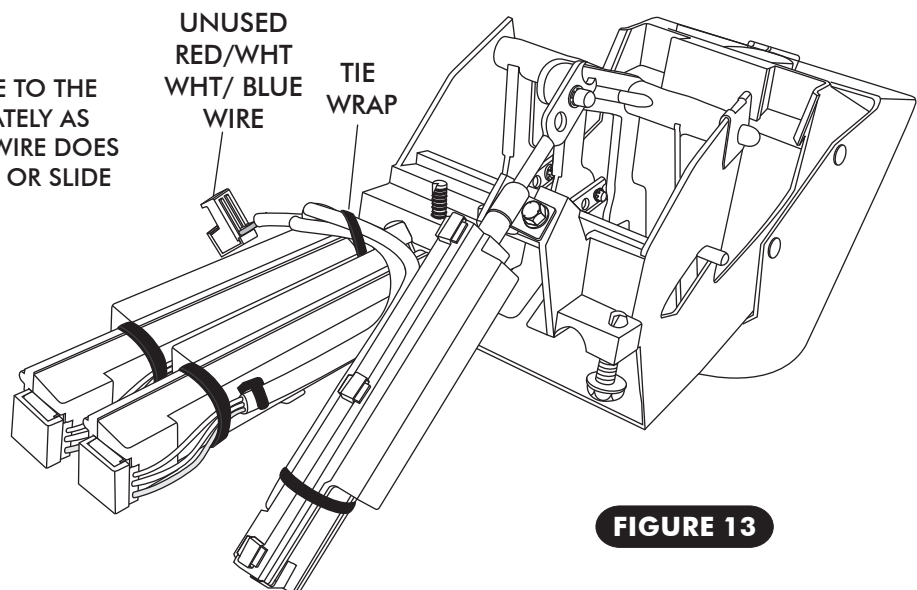

FIGURE 13
- USING THE SUPPLIED TIE-WRAPPS, TIE THE WIRES TO THE CONTROL PANEL AS SHOWN IN FIGURE 13. BELOW CONFIRM THAT WIRES ARE SECURED AND DO NOT INTERFERE WITH LEVER OPERATION OR CABLE CONVERTER ASSEMBLY.